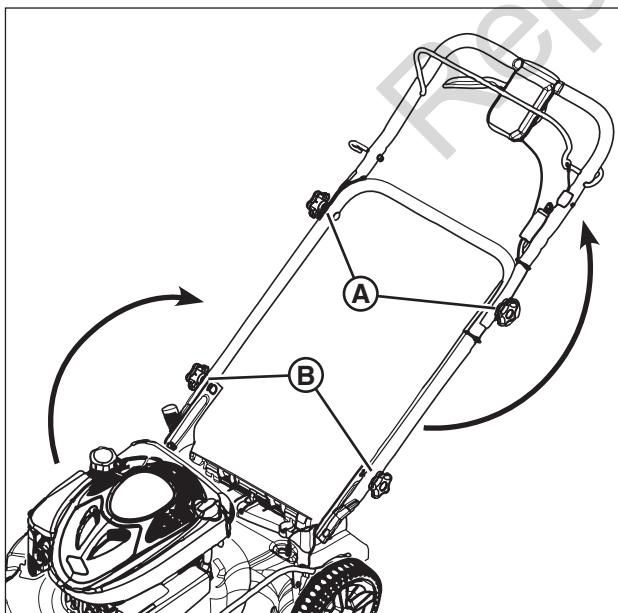

Figure 1: Raising the handle assembly
1. Loosen, but do not remove, the knobs (**A**, Figure 1) on both sides of the upper handle.